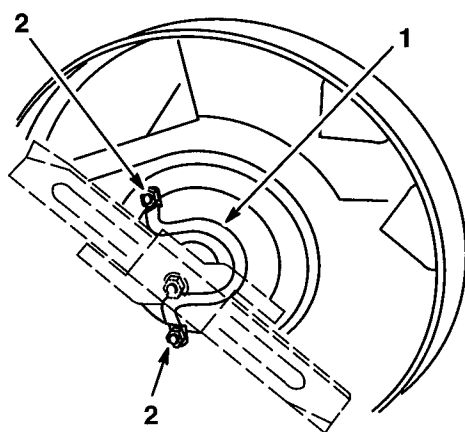

Figure 17
4. **SELF-PROPELLED MODEL ONLY**—Remove the two bolts securing belt guide to underside of mower deck (Fig. 17). Belt guide must be removed in order to access drain plug.